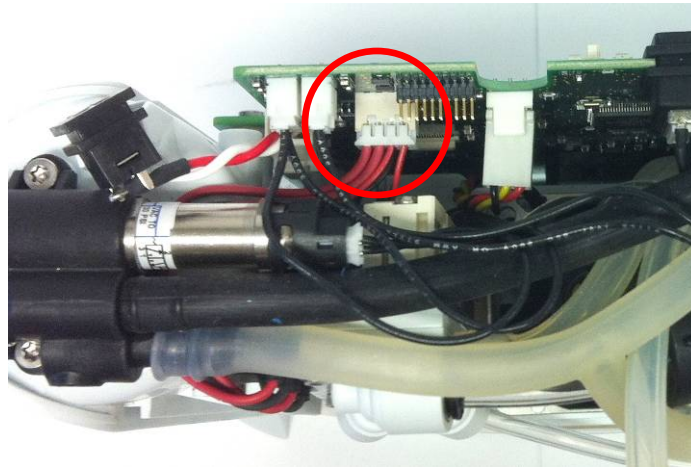

Figure 10: Product manifold motherboard cable
2. Carefully disconnect the product manifold cable from the motherboard using pliers to pull the white connector off of the pins and away from the motherboard (Figure 10).